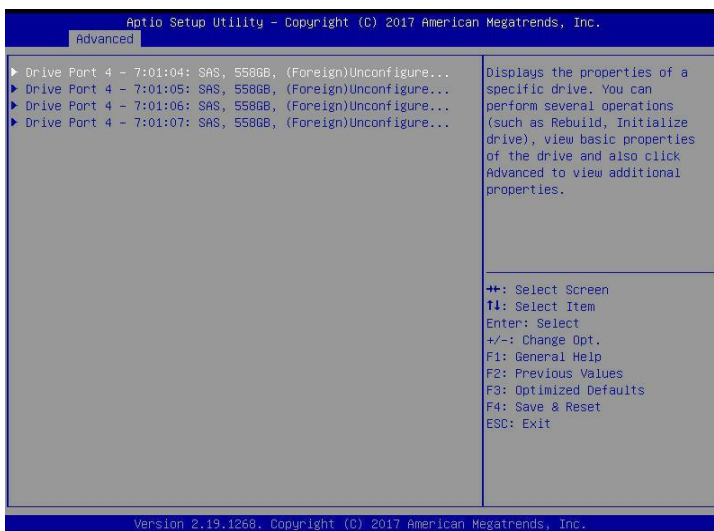

Figure 6-27
- b) Enter the interface shown in Figure 6-27, select the disk to be configured, and press Enter.
✧ Figure 6-27 Drive Management management interface